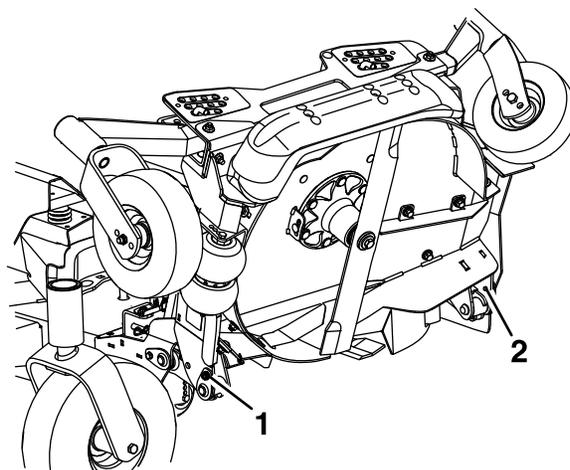
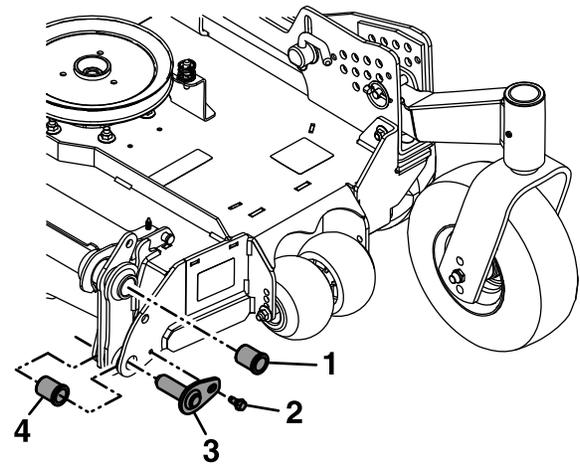

Figure 84
Figure 87
7. Loosen the bolts that secure the upper pivot pins to the deck but **do not** remove the bolts (Figure 84).
- 14. Remove the flanged bushings from the upper pivot points and clean the bore (Figure 87).
- 18. Remove and retain the lower pivot point bolts (Figure 84 and Figure 87).